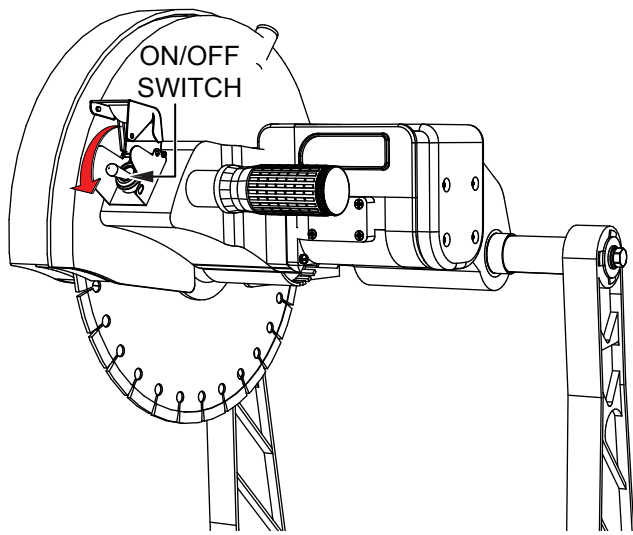

Figure 14. ON/OFF Switch (OFF)
1. Verify that the power ON/OFF switch is placed in the **OFF** (down) position. See Figure 14.